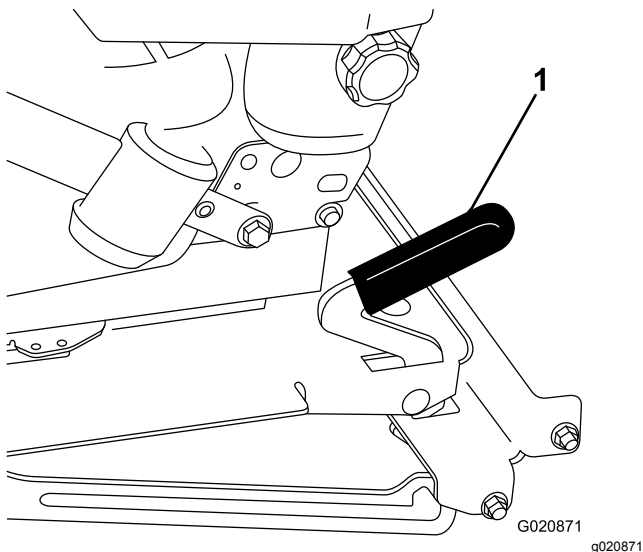

Figure 16
2. Pull the seat latch forward and lift up to unlatch the seat (Figure 16).